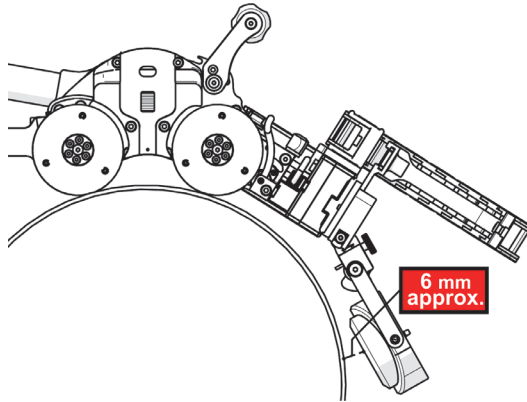

Figure 2-43 Pivot raster arm
2. Lower the probe holder to roughly 6 mm (0.25 in.) above the scan surface, and then latch the pivot nose at this position (see Figure 2-43 on page 77).